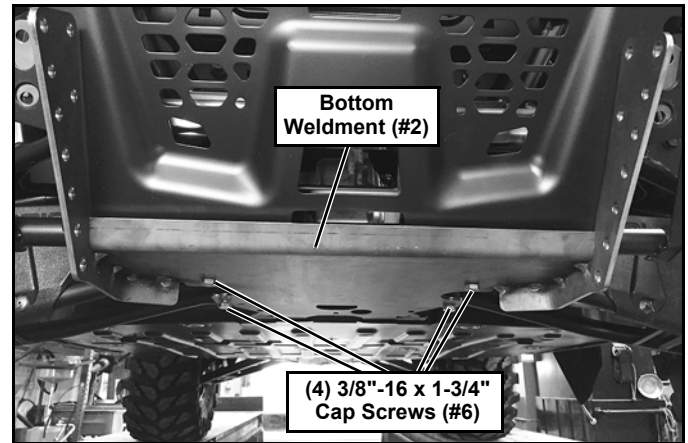

Figure 3
4. Align the four bottom holes in the Bottom Weldment (#2) with the four holes in the bottom of the vehicle frame. The front two bottom holes align with the holes that the hardware was removed from in step 1 (See Figure 3).
5. Insert (4) 3/8"-16 x 1-3/4" Cap Screws (#6) into the Bottom Weldment (#2) and into the vehicle frame. Secure with (4) 3/8"-16 Locknuts (#8) (See Figure 3).